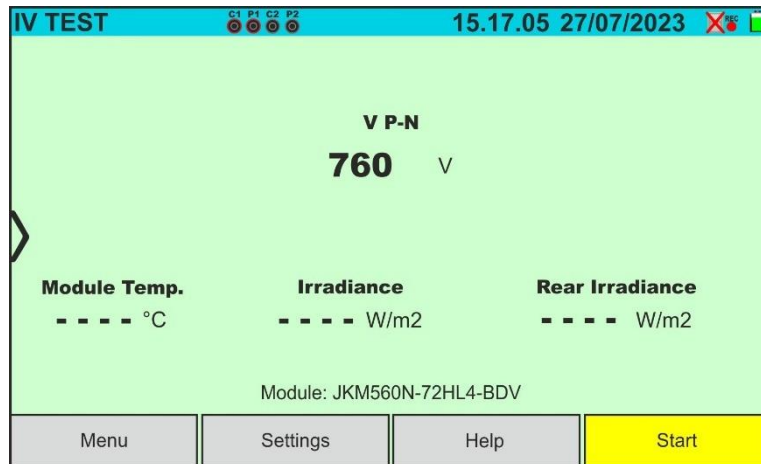

Fig. 52: I-V curve with SOLAR03 in synchronous recording on Bifacial modules
11. In the case of **Bifacial** modules, the screen Fig. 52 is shown on the display. The following parameters are indicated: